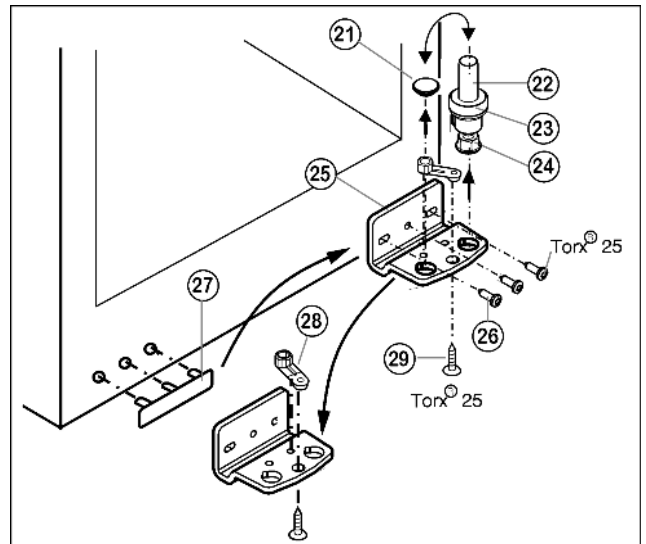

Fig. 5
- ▶ Lift out the bearing pin Fig. 5 (22) together with washer Fig. 5 (23) and adjustable-height foot Fig. 5 (24).
- ▶ Lift off the stopper Fig. 5 (21).
- ▶ Unscrew Fig. 5 (26) the turn hinge Fig. 5 (25).
- ▶ Unscrew Fig. 5 (29) the bearing element Fig. 5 (28), transfer it to the opposite location hole of the turn hinge and screw it firmly into place.
- ▶ Carefully lift off the cover on the handle side Fig. 5 (27) and transfer it to the opposite side.
- ▶ Screw the turn hinge Fig. 5 (25) firmly into place on the new hinge side, possibly using a cordless screwdriver (with 4 Nm).
- ▶ Re-insert the stopper Fig. 5 (21) into the other hole.
- ▶ Re-insert the bearing pin Fig. 5 (22) together with the washer and adjustable-height foot. In so doing, pay attention that the locating lug points backwards
- Place the door from above onto the lower bearing pin Fig. 5 (22).
- Align the door to the appliance housing by way of the two oblong holes in the bottom turn hinge Fig. 5 (25). To do so, unscrew the middle screw.